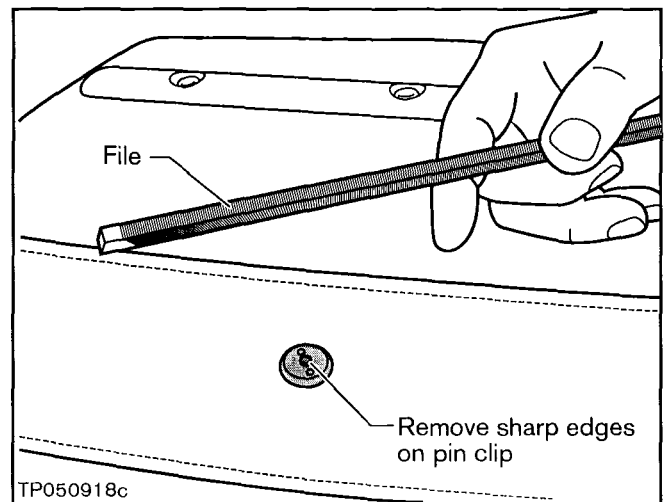

Figure 19
- i. Use a file to remove any sharp edges from the pin clips (see Figure 19).